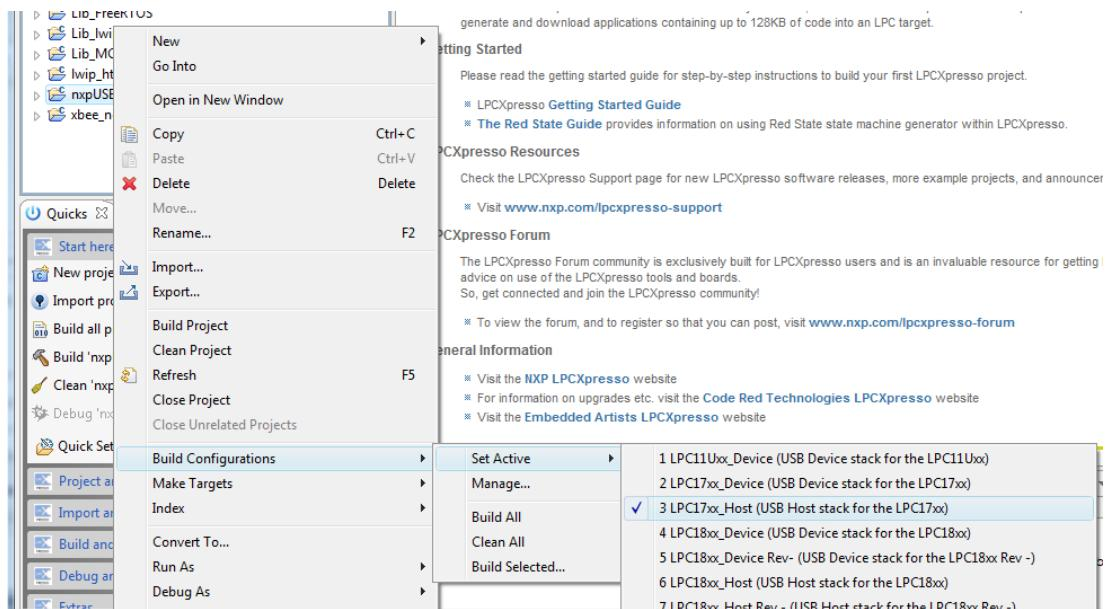

Figure 24 – Configuring nxpUSBLib for USB Host
6) By default the NXP USB library has been configured for USB device only. This needs to be changed to USB host. Right click on the nxpUSBLib project and select Build Configuration, then Set Active. In the list select LPC17xx_Host. See Figure 24.